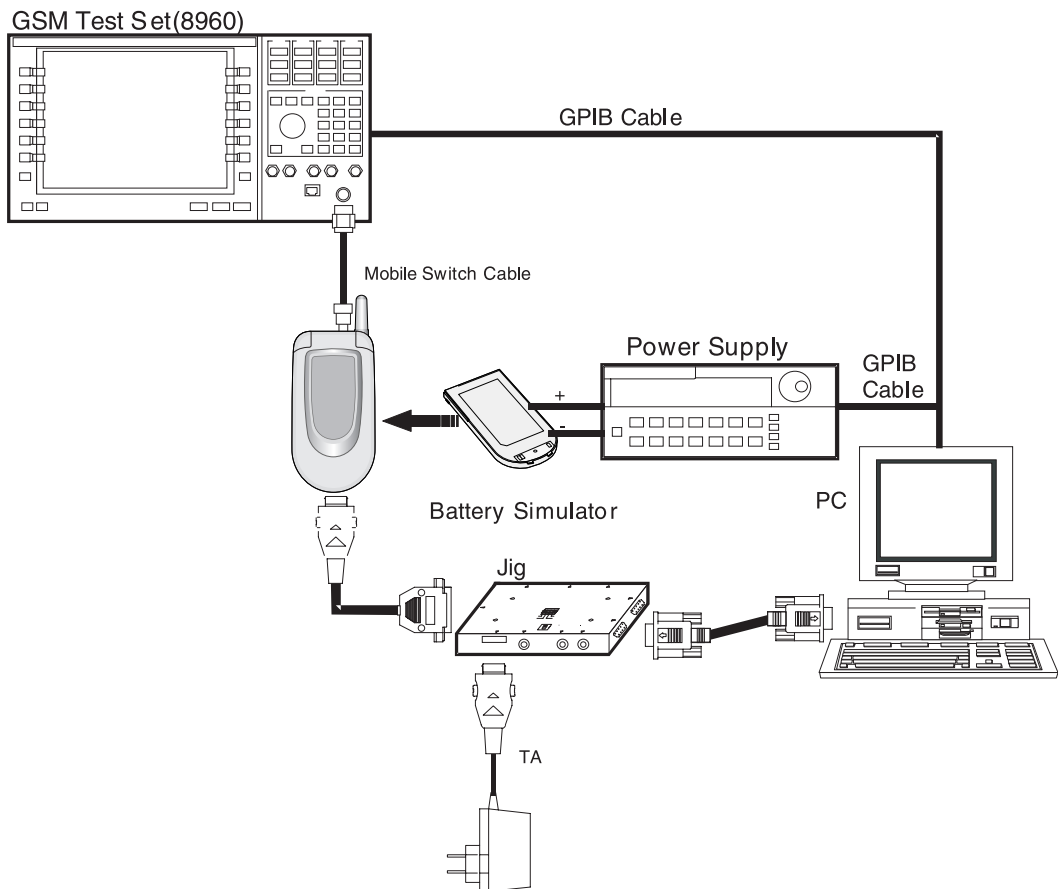

Figure 6-2.
1. Connect as Fig 6-2 (RS232 serial cable is connected between COM port of PC and MON port of TEST JIG, in general)